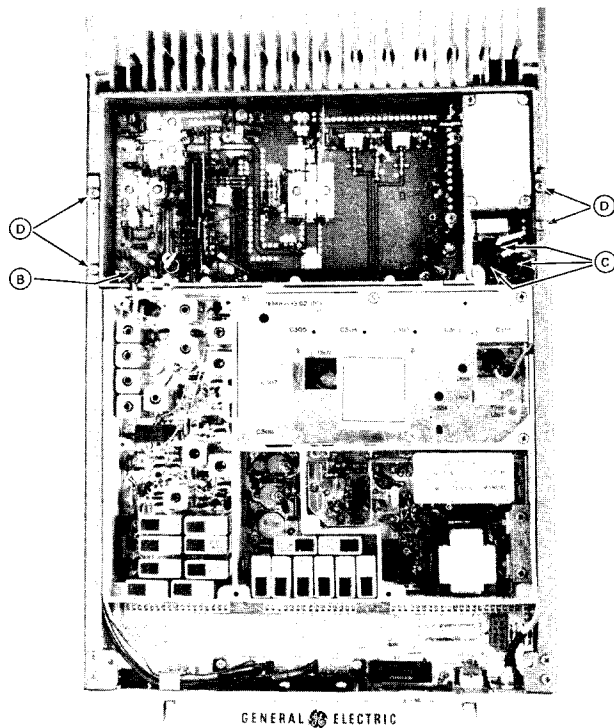

Figure 2 - Disassembly Procedure
- Remove the top cover, then loosen the two bottom cover retaining screws and remove the bottom cover (See Figure 2).
- Unplug the exciter/PA cable (B) (Figure 2).
To remove the PA assembly: (See Figure 2).